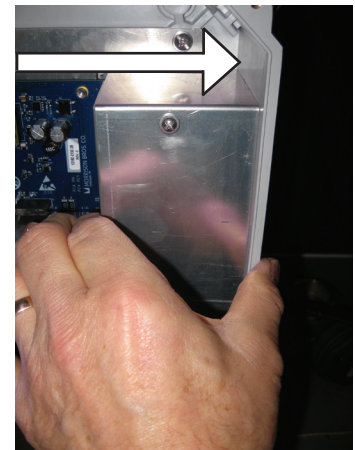

Figure 4 Adjust the position of the cover
2. Slide the cover to the right snugly up against the enclosure wall as shown in Figure 4.